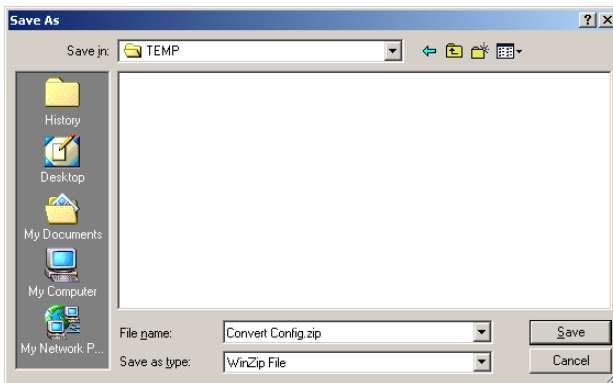

figure 48.2: Save As window
- 3 Click the *Save* button to save the configuration conversion files to your computer. A screen similar to the one in figure 48.2 appears.
- 4 Save the *Convert Config.zip* file in *C:\TEMP* (as indicated in figure 48.2).